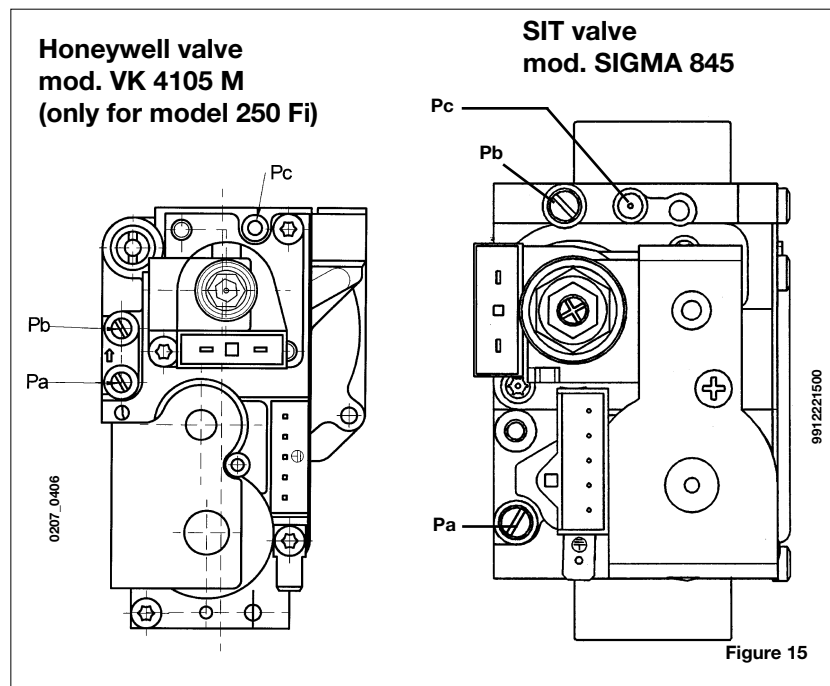

Figure 15
The authorised Technical Assistance Service can convert this boiler to natural gas (**G20**) or liquid gas (**G31**). The procedure for calibrating the pressure regulator varies slightly according to the type of gas valve fitted (HONEYWELL or SIT, see figure 15).
- connect the positive pressure test point of a differential pressure gauge (possibly water-operated) to the gas valve pressure test point (**Pb**) (Figure 15). Only for models with sealed chambers, connect the negative pressure test point of the pressure gauge to a "T" fitting in order to join the boiler adjustment outlet, the gas valve adjustment outlet (**Pc**) and the pressure gauge. (The same measurement can be made by connecting the pressure gauge to the pressure test point (**Pb**) after removing the front panel of the sealed chamber);
- make sure that the dynamic inlet pressure of the boiler, measured at the gas valve pressure test point (**Pa**) (Figure 15) is correct (**37 mbar for propane** or **20 mbar for natural gas**).